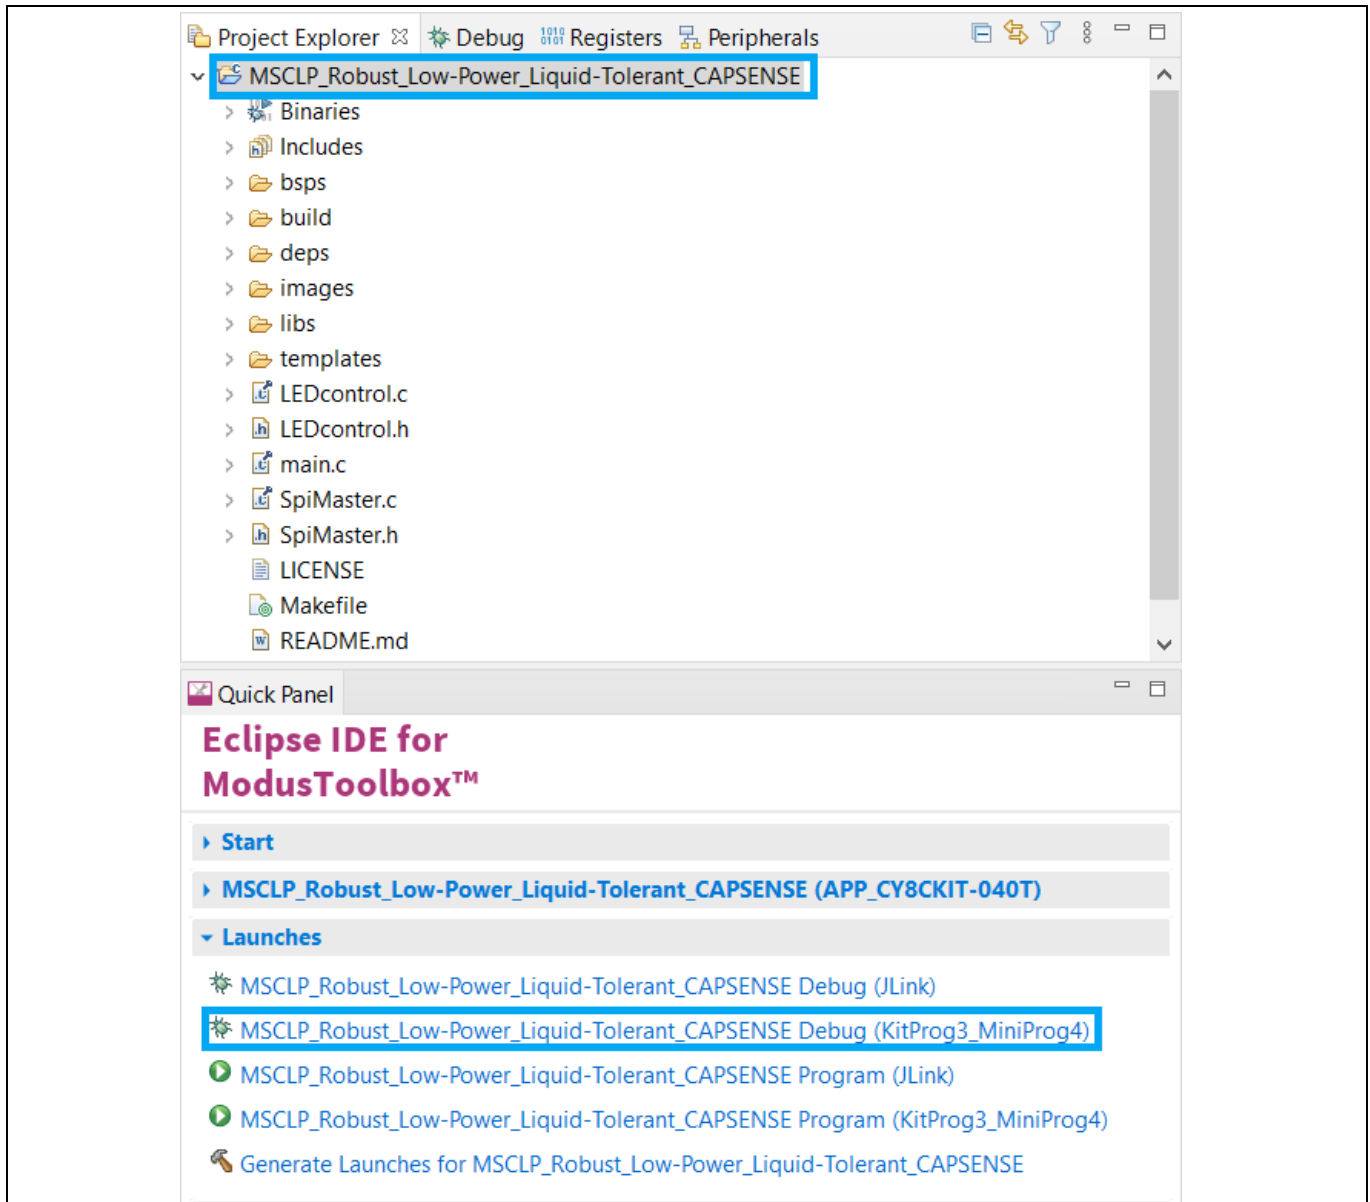

Figure 15 Debugging the code example
4. ModusToolbox™ software has an integrated debugger. To debug a PSoC™ 4000T device application, in the **Project Explorer** tab, select **<App_Name>** project. In the **Quick Panel**, scroll to the **Launches** section, and click the **<App_Name> Debug (KitProg3_MiniProg4)** configuration, as shown in Figure 15. For a detailed explanation on how to debug using ModusToolbox™ software, see “Program and debug” section in Eclipse IDE for ModusToolbox™ user guide.